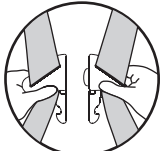

Fig. 1
- Put the two metal sections of the buckle connectors together. (fig.1)